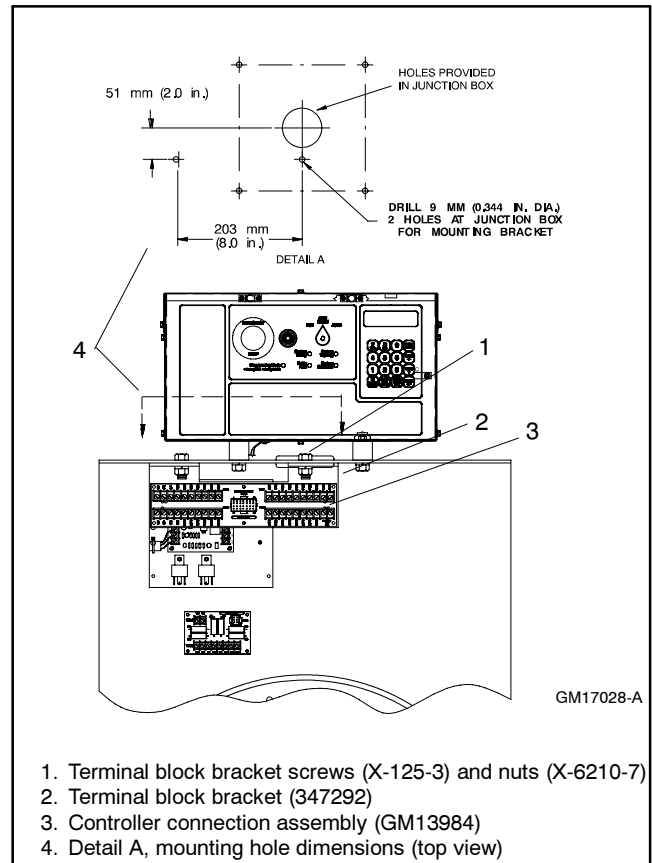

Figure 3 Terminal Block Bracket and Controller Connection Assembly Mounting (350-450 kW)
- 2.2.2 Remove the four screws attaching the controller to the junction box. See Figure 3.
- 2.2.3 Mark the drill hole locations where the terminal block bracket (347292) mounts to the junction box top panel using the dimensions given in Figure 3.
- 2.2.6 Place the terminal block bracket (347292) on the underside of the junction box top panel with the bracket mounting holes visible from the rear of the junction box and mount using two screws (X-125-3) and nuts (X-6210-7). See Figure 3.